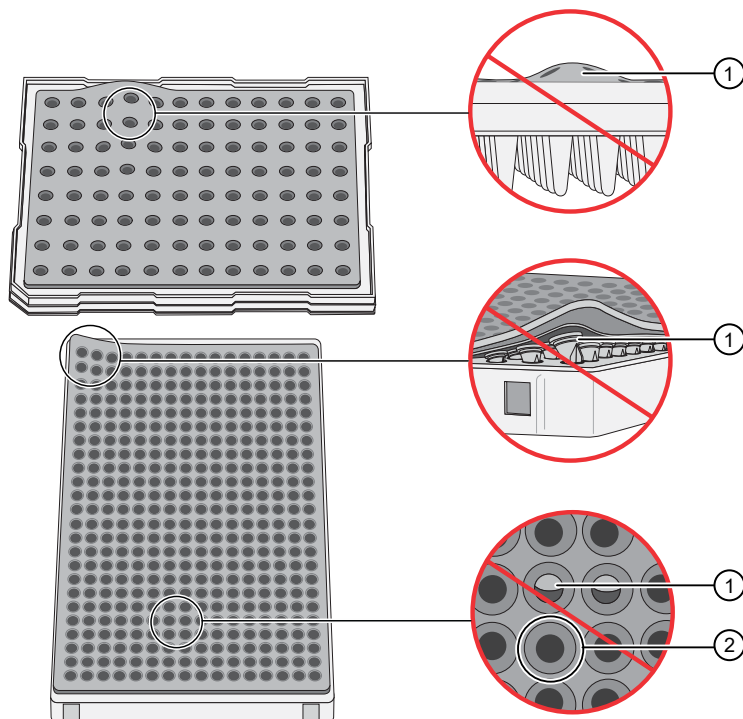

Figure 8 Examples of bad and good septa alignment
Septum seal	 <p data-bbox="527 997 649 1039">① Septum</p> <p data-bbox="990 997 1088 1039">② Plate</p> <ol data-bbox="397 1060 1421 1312" style="list-style-type: none"> 1. Place the plate on a clean, level surface. 2. Place a new septum flat on the plate. 3. Align the holes in the septum strip with the wells of the plate, then firmly press downward onto the plate. Ensure that the septum is seated and aligned (see Figure 8). <ul style="list-style-type: none"> • The septa lie flat against the plate. Ensure that there are no lumps or raised edges. • The septa are inserted straight into the wells. Ensure that no well openings are obscured by a pinched well.